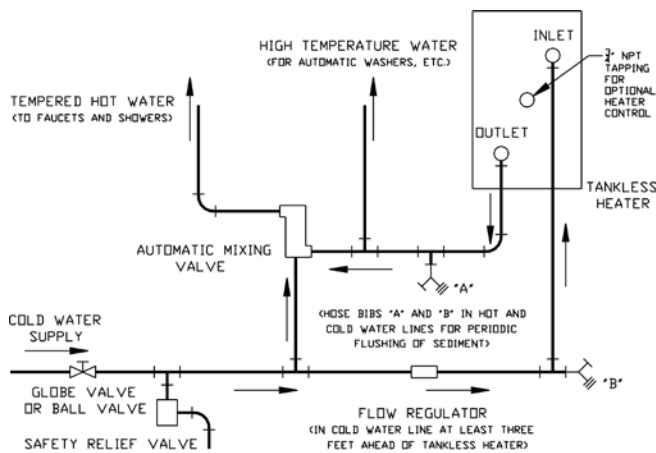

Figure 41: Schematic Tankless Heater Piping
1. Hot Water Boiler/Tankless Coil(s) – Tankless coils, mounted into the side of the boiler(s), have been used successfully for many years and may be used in single and multiple boiler applications. When a boiler is arranged with tankless coils, it is not recommended that outdoor reset be used, unless there are controls in place to prevent overheating of the space heating zones. Figure 41 depicts
O. CONNECT TANKLESS HEATER PIPING as shown in Figure 41. See Table V for Tankless Heater Ratings.
If flow through the heater is greater than its rating, the supply of adequate hot water may not be able to keep up with the demand. For this reason a FLOW REGULATOR matching the heater rating should be installed in the cold waterline to the heater. Refer to Figure 41 for piping recommendations. The flow regulator should preferably be located below the inlet to the heater and a minimum of 3 feet away from the inlet so that the regulator is not subjected to excess temperatures that may occur during “off” periods when it is possible for heat to be conducted back through the supply line. The flow regulator also limits the flow of supply water regardless of inlet pressure variations in the range of 20 to 125 psi.
All water contains some sediment which settles on the inside of the coil. Consequently, the heater should be periodically backwashed. This is accomplished by installing hose bibs as illustrated in Figure 41 and allowing water at city pressure to